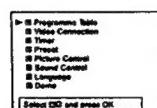

Fig. 1.
- Press the **MENU** button. The main menu appears. (See Fig. 1.)